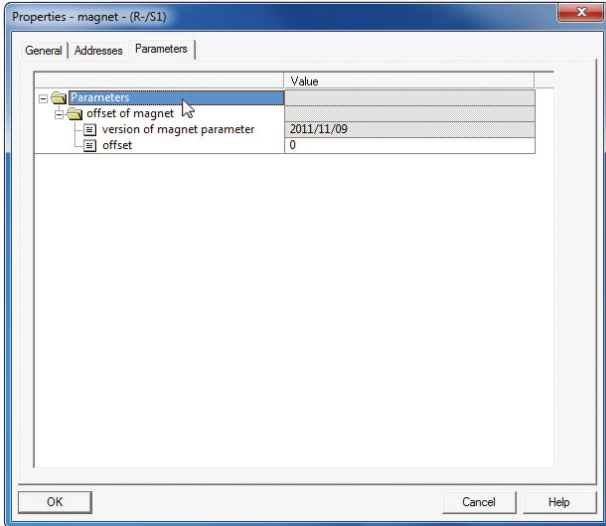

Fig. 70: Adjust the position offset of the magnet (source: Siemens)
- Double-click a magnet to open window “Properties – magnet”. Select tab “Parameters” and adjust the position offset of the magnet with unit μm (Fig. 70).